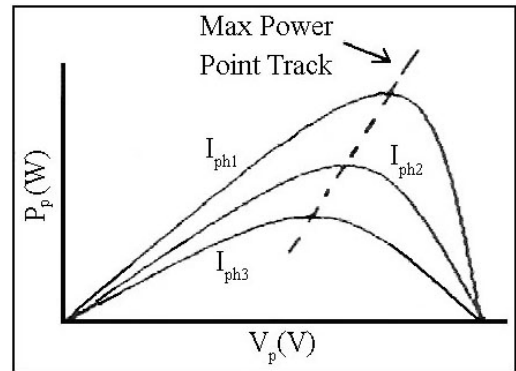

Fig.2: Typical “ $V_p$  VS.  $P_p$ ” For PV Panel
Power” ( $V_p - P_p$ ) (Figure 2) characteristics as a function of solar radiation. At each radiation, represented proportionally by the panel short circuit current  $I_{ph}$ , there exists a particular operating point at which the output power of the panel becomes the maximum.
Hence theoretically, equations (9) and (10) indicate that  $V_a$  follows variations of  $P_a$  and  $P_p$ . As per the typical  $V_p$ - $I_p$  characteristics (Figure 2),  $P_p$  rises from zero, reaches maximum and decreases to zero. So does  $P_a$  and  $V_a$ . Thus  $V_a$  becomes maximum when  $P_a$  becomes maximum. Conversely, maximum  $P_a$  corresponds to maximum  $V_a$ .